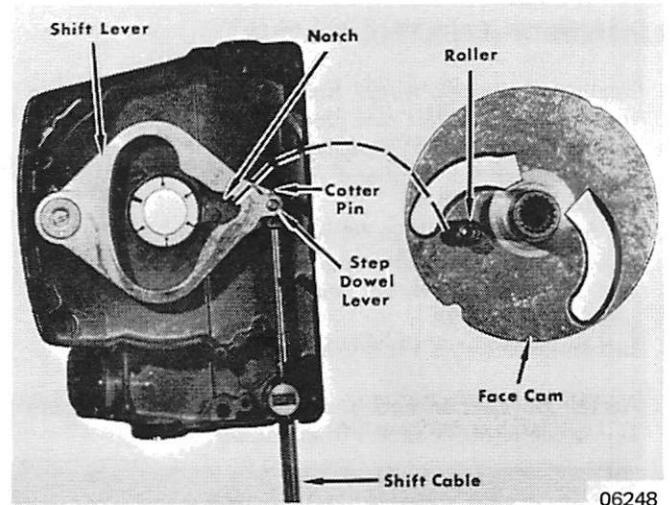

Figure 2. Shift Cable Installation
1. Remove cotter pin and step dowel pin from shift lever. (Figure 2)
2. Place Anti-Corrosion Grease (C-92-45134A1) into cable socket and install shift cable into position. Coat step dowel pin with a thin film of Anti-Corrosion Grease and install step dowel pin thru shift lever cable end. (Figure 2)
4. Place face cam in position over shift lever. Roller on face cam must fit into notch of shift lever. (Figure 2)